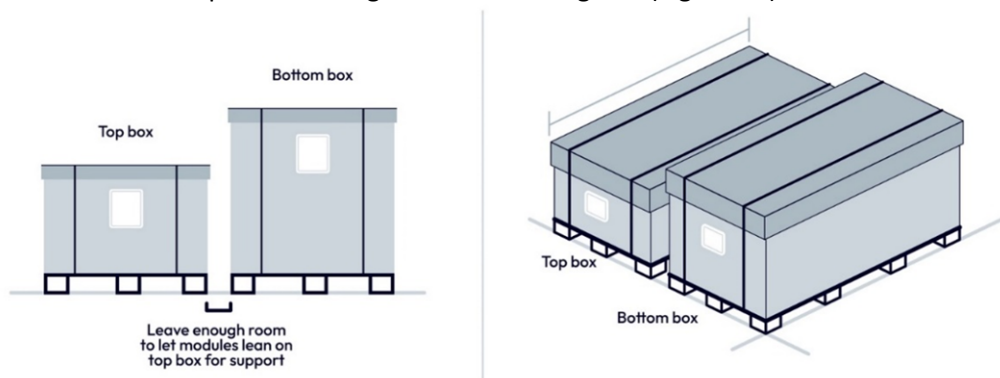

Figure 14: Boxes correct alignment.
4. Unstack the top box by using adequate tools, such as a forklift, and place it alongside the bottom box so that the two pallets are aligned over the long end (Figure 14).